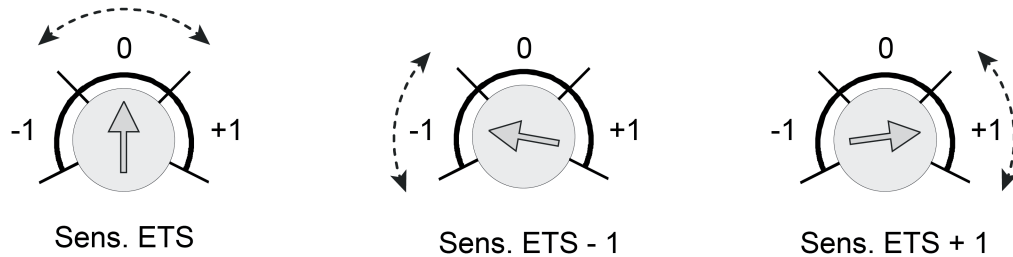

Figure 21: Example of the adjustment ranges of the sensitivity adjuster on the device
- (7) Slide switch for local operation (setting of the operating mode and activation of the programming mode (see page 25))
- (8) Programming button (red)
- (9) Sensitivity adjuster
- (10) Design cover for the slide switch (operating element)
- (12) "ON" button for operating mode switchover and to activate the programming mode (see page 25)
- (13) "OFF" button for operating mode switchover
The sensitivity of the motion detection, which is a gauge for the range of the PIR evaluation, can be configured separately in the ETS for the both PIR sectors and can also be adjusted directly on the device after commissioning. For this purpose, the device has the adjuster (9) that makes it possible to change the configured sensitivity setting of all PIR sectors. The sensitivity can be reduced or increased by a maximum of one level using the adjuster (figure 21).